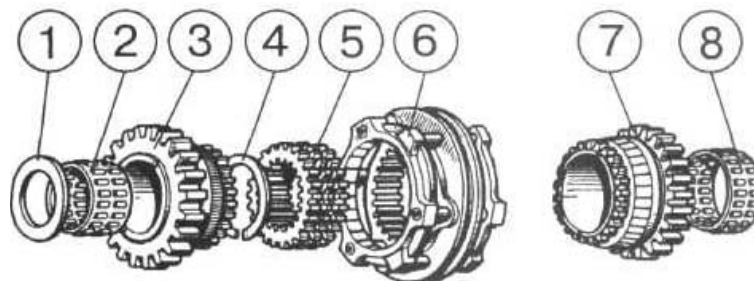

Figure 4.66
a) remove washer 1 (Figure 4.66), gear 3, bearing 2, synchronizer 6;